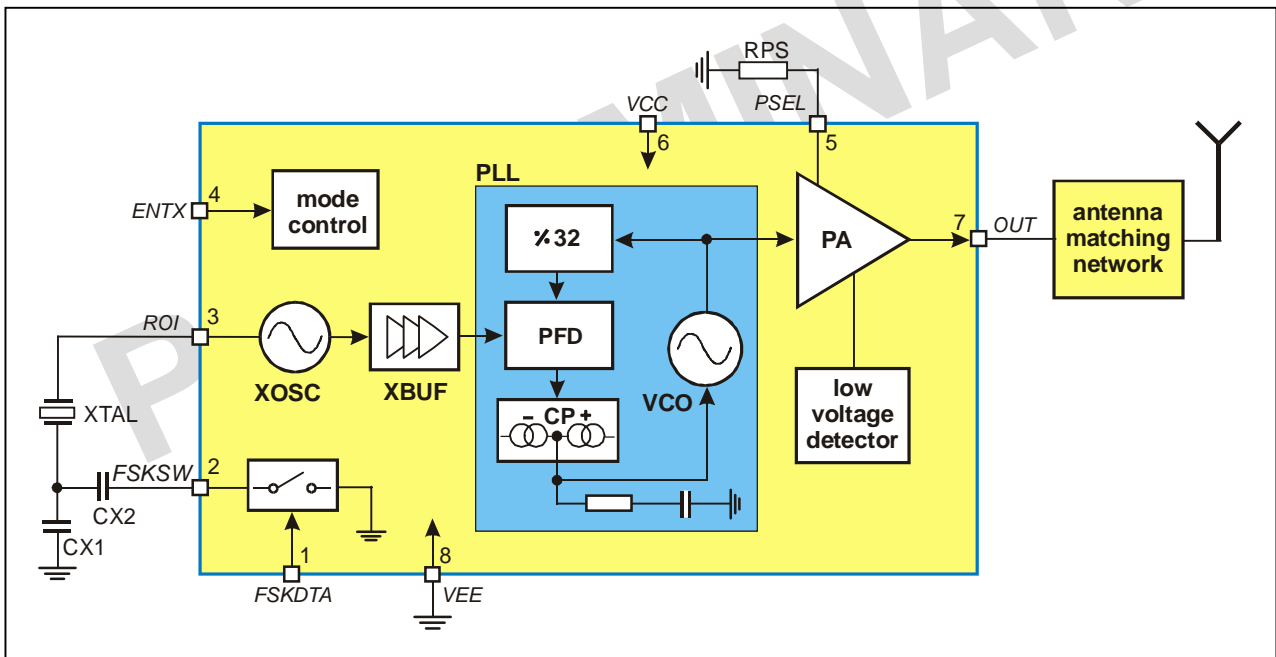

Fig. 1: Block diagram with external components
As depicted in Fig.1, the TH72031 transmitter consists of a fully integrated voltage-controlled oscillator (VCO), a divide-by-32 divider (div32), a phase-frequency detector (PFD) and a charge pump (CP). An internal loop filter determines the dynamic behavior of the PLL and suppresses reference spurious signals. A Colpitts crystal oscillator (XOSC) is used as the reference oscillator of a phase-locked loop (PLL) synthesizer. The VCO's output signal feeds the power amplifier (PA). RF signal power P_{out} can be adjusted in four steps from $P_{out} = -15$ dBm to +6 dBm, either by changing the value of resistor RPS or by varying the voltage V_{PS} at pin PSEL. The open-collector output (OUT) can be used either to directly drive a loop antenna or to be matched to a 50Ohm load. Bandgap biasing ensures stable operation of the IC at a power supply range of 1.9 V to 5.5 V.